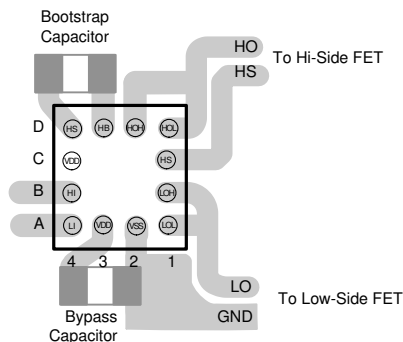
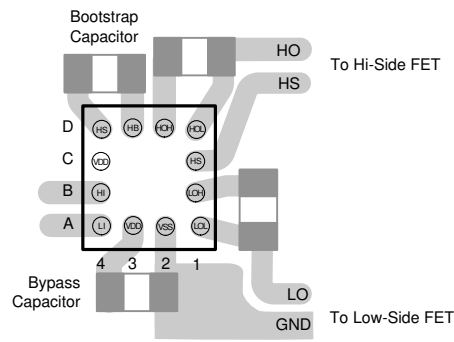

Figure 10-1. Layout Example Without Gate Resistors
Figure 10-2. Layout Example with HOH and LOH Gate Resistors
Figure 10-1 and Figure 10-2 show recommended layout patterns for the LMG1205. Two cases are considered: (1) without any gate resistors, and (2) with an optional turnon gate resistor. Note that 0402 surface mount package is assumed for the passive components in the drawings. For information on DSBGA package assembly, refer to Section 11.2.1.